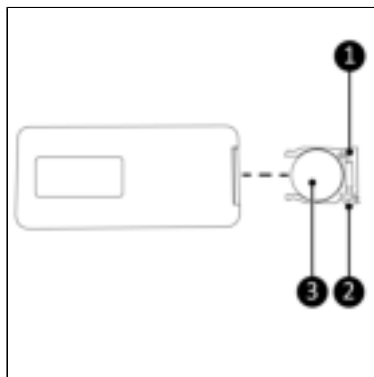

Figure 29.
1. Push the tab (Figure 29, pos. 2) on the battery tray (Figure 29, pos. 1) and pull the battery tray out from the remote control.
2. Remove the old battery (Figure 29, pos. 3) from the battery tray.